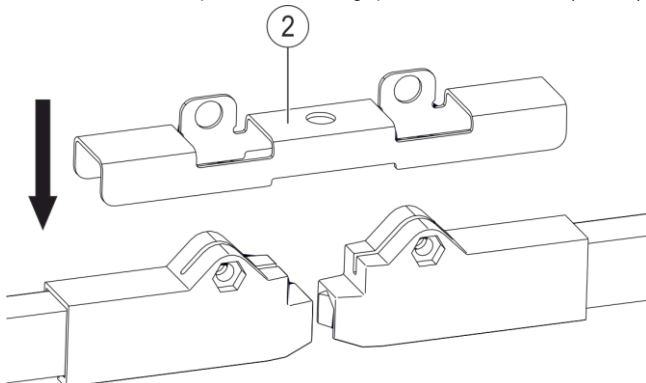

Fig. 98: Place plate on end caps
- Place the plate for the air gap insulation section (Pos. 2) on the end caps (Pos. 1) (see Fig. 98).